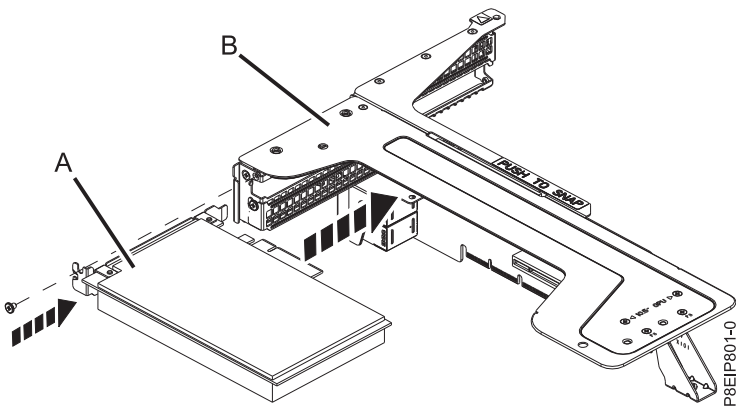

Figure 50. Inserting an adapter into position 3 of the PCIe riser
- b. Insert the PCIe adapter (A) that is located in position 3 into the PCIe adapter riser (B) as shown in Figure 50.